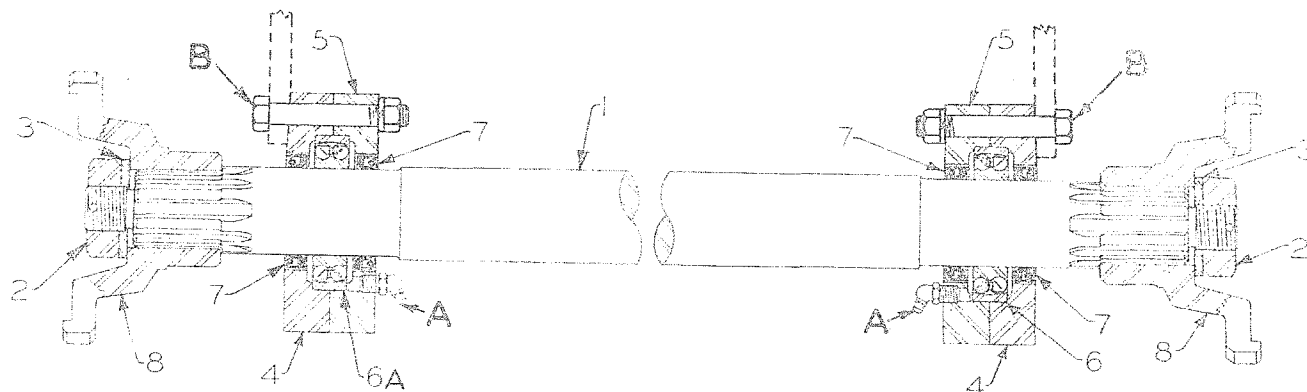

Figure 109. Center Section of Front Propeller Shaft
the cap screws (8) to the side, which is quite satisfactory; however, the fitting yoke (14), located at the right end of shaft (10), is incorrectly shown and timed to the splined shaft (10). See Fig. 109 for proper timing of these yokes. Note that both yokes are turned up.
the rear end (away from the front axle). When assembling slip yoke (8) to shaft (12) be sure to time the yoke exactly as shown in Fig. 109.